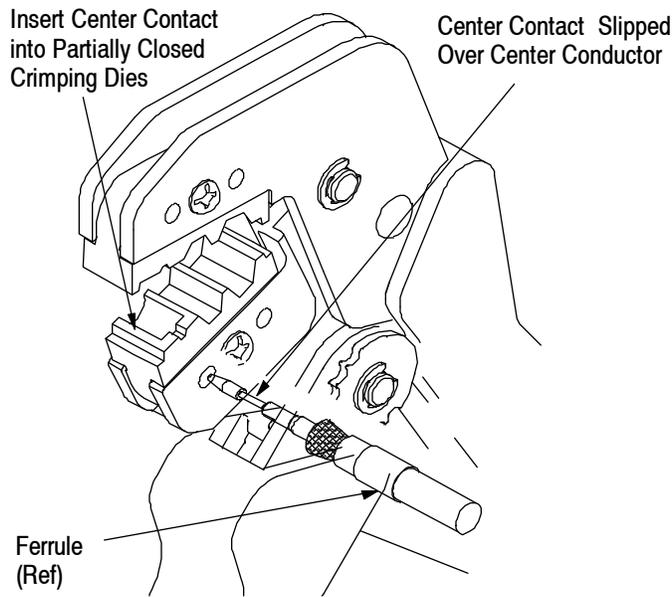
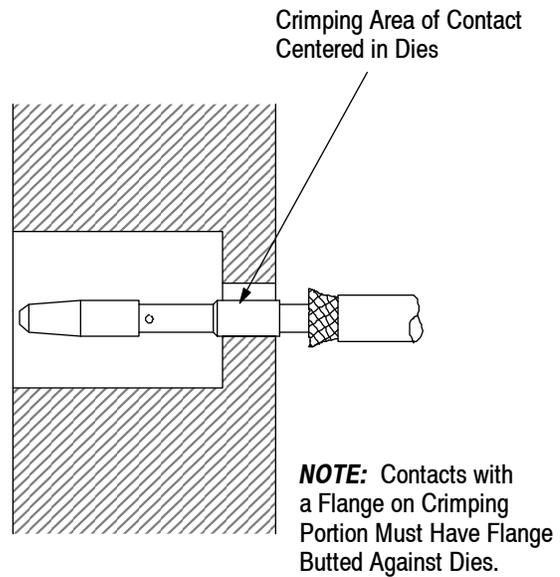

Figure 2
Figure 3
3. CRIMPING PROCEDURE (Figure 2 and Figure 3)
Center the crimping area of the contact in the dies. See Figure 2. If contacts have a flange on the crimping portion, butt the flange against dies (Figure 3).